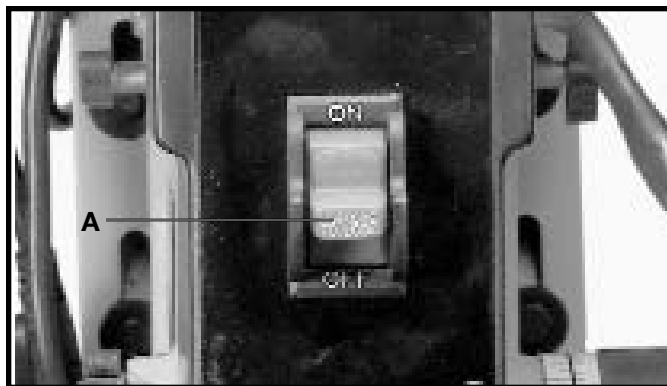

Fig. 17
The switch (A) Fig. 17, is located on the front of the drill press head. To turn the drill press "ON" move the switch to the up position. To turn the drill press "OFF" move the switch to the down position.